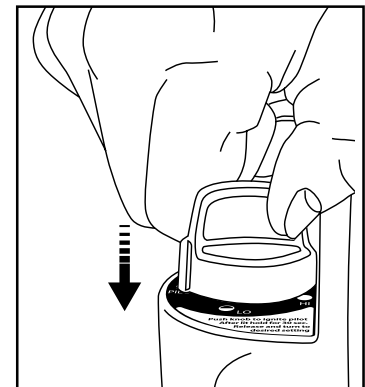

Figure 3: Ignition
- Turn Control Knob counterclockwise to "PILOT" position and depress to light; see Figure 3.
- Turn Control Knob counterclockwise to “PILOT” position and depress to light; see Figure 3.